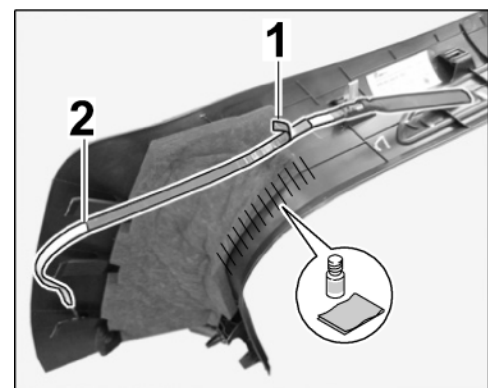

Figure 23
- 3.3.3 Clean underside of A-pillar trim panel (lower) in the bonding surface area of the flat conductor web (⇒ *Figure 23 -Hatching-*) with isopropanol so it is free from grease and dust.
Pull the protective film off the flat conductor path (⇒ *Figure 23*).